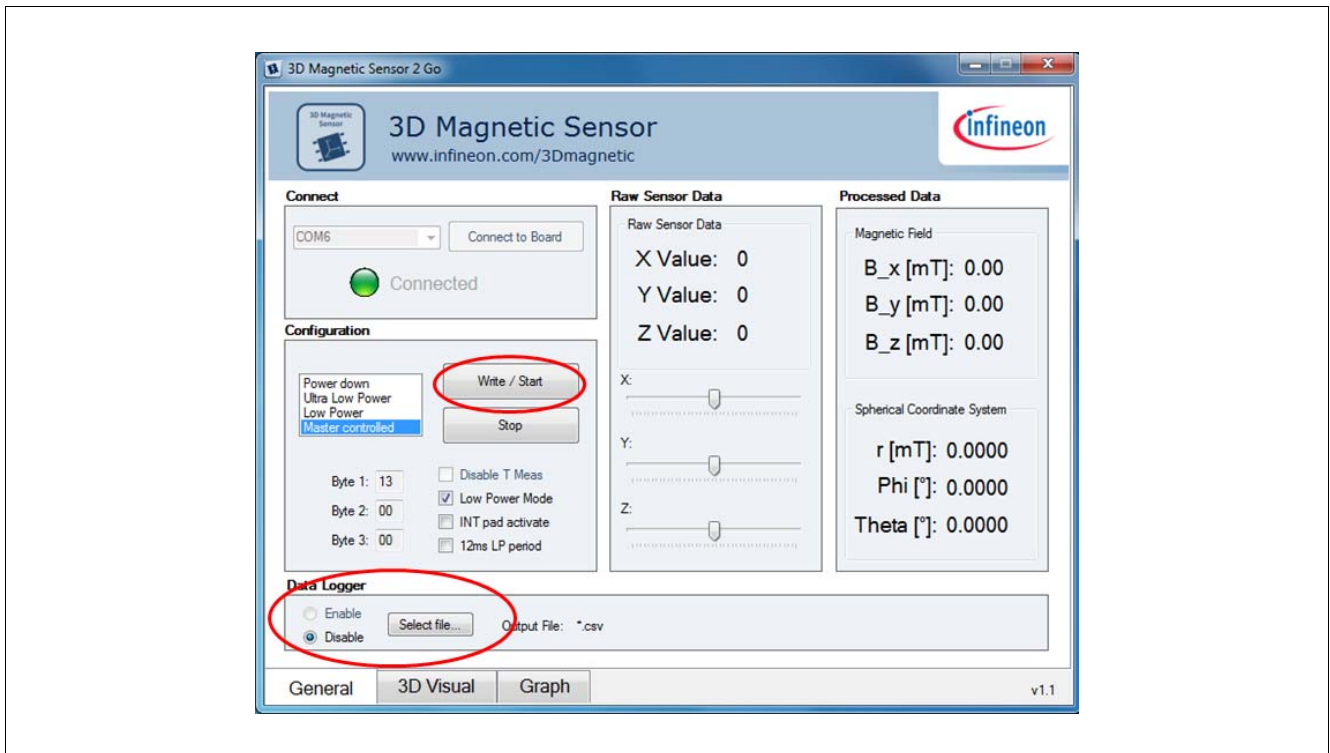

Figure 8 Demo-Software - Sensor Readout
6. Click "Start" (see Figure 8).